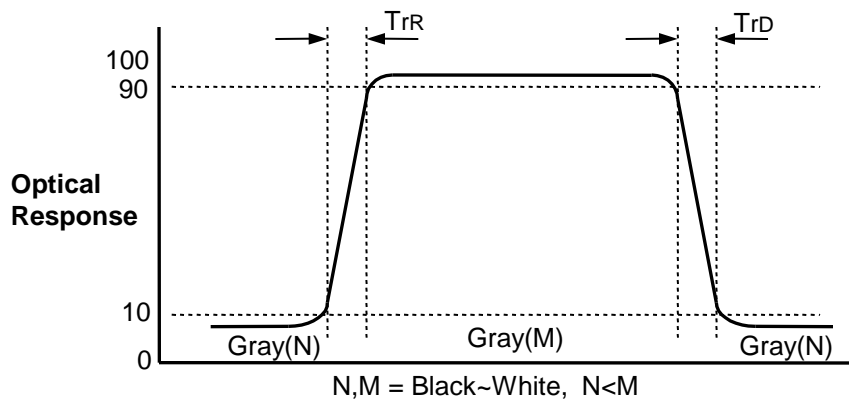

FIG. 3 Response Time
4. Response time is the time required for the display to transit from G(N) to G(M) (Rise Time, Tr_R) and from G(M) to G(N) (Decay Time, Tr_D). For additional information see the FIG. 3.(N<M)